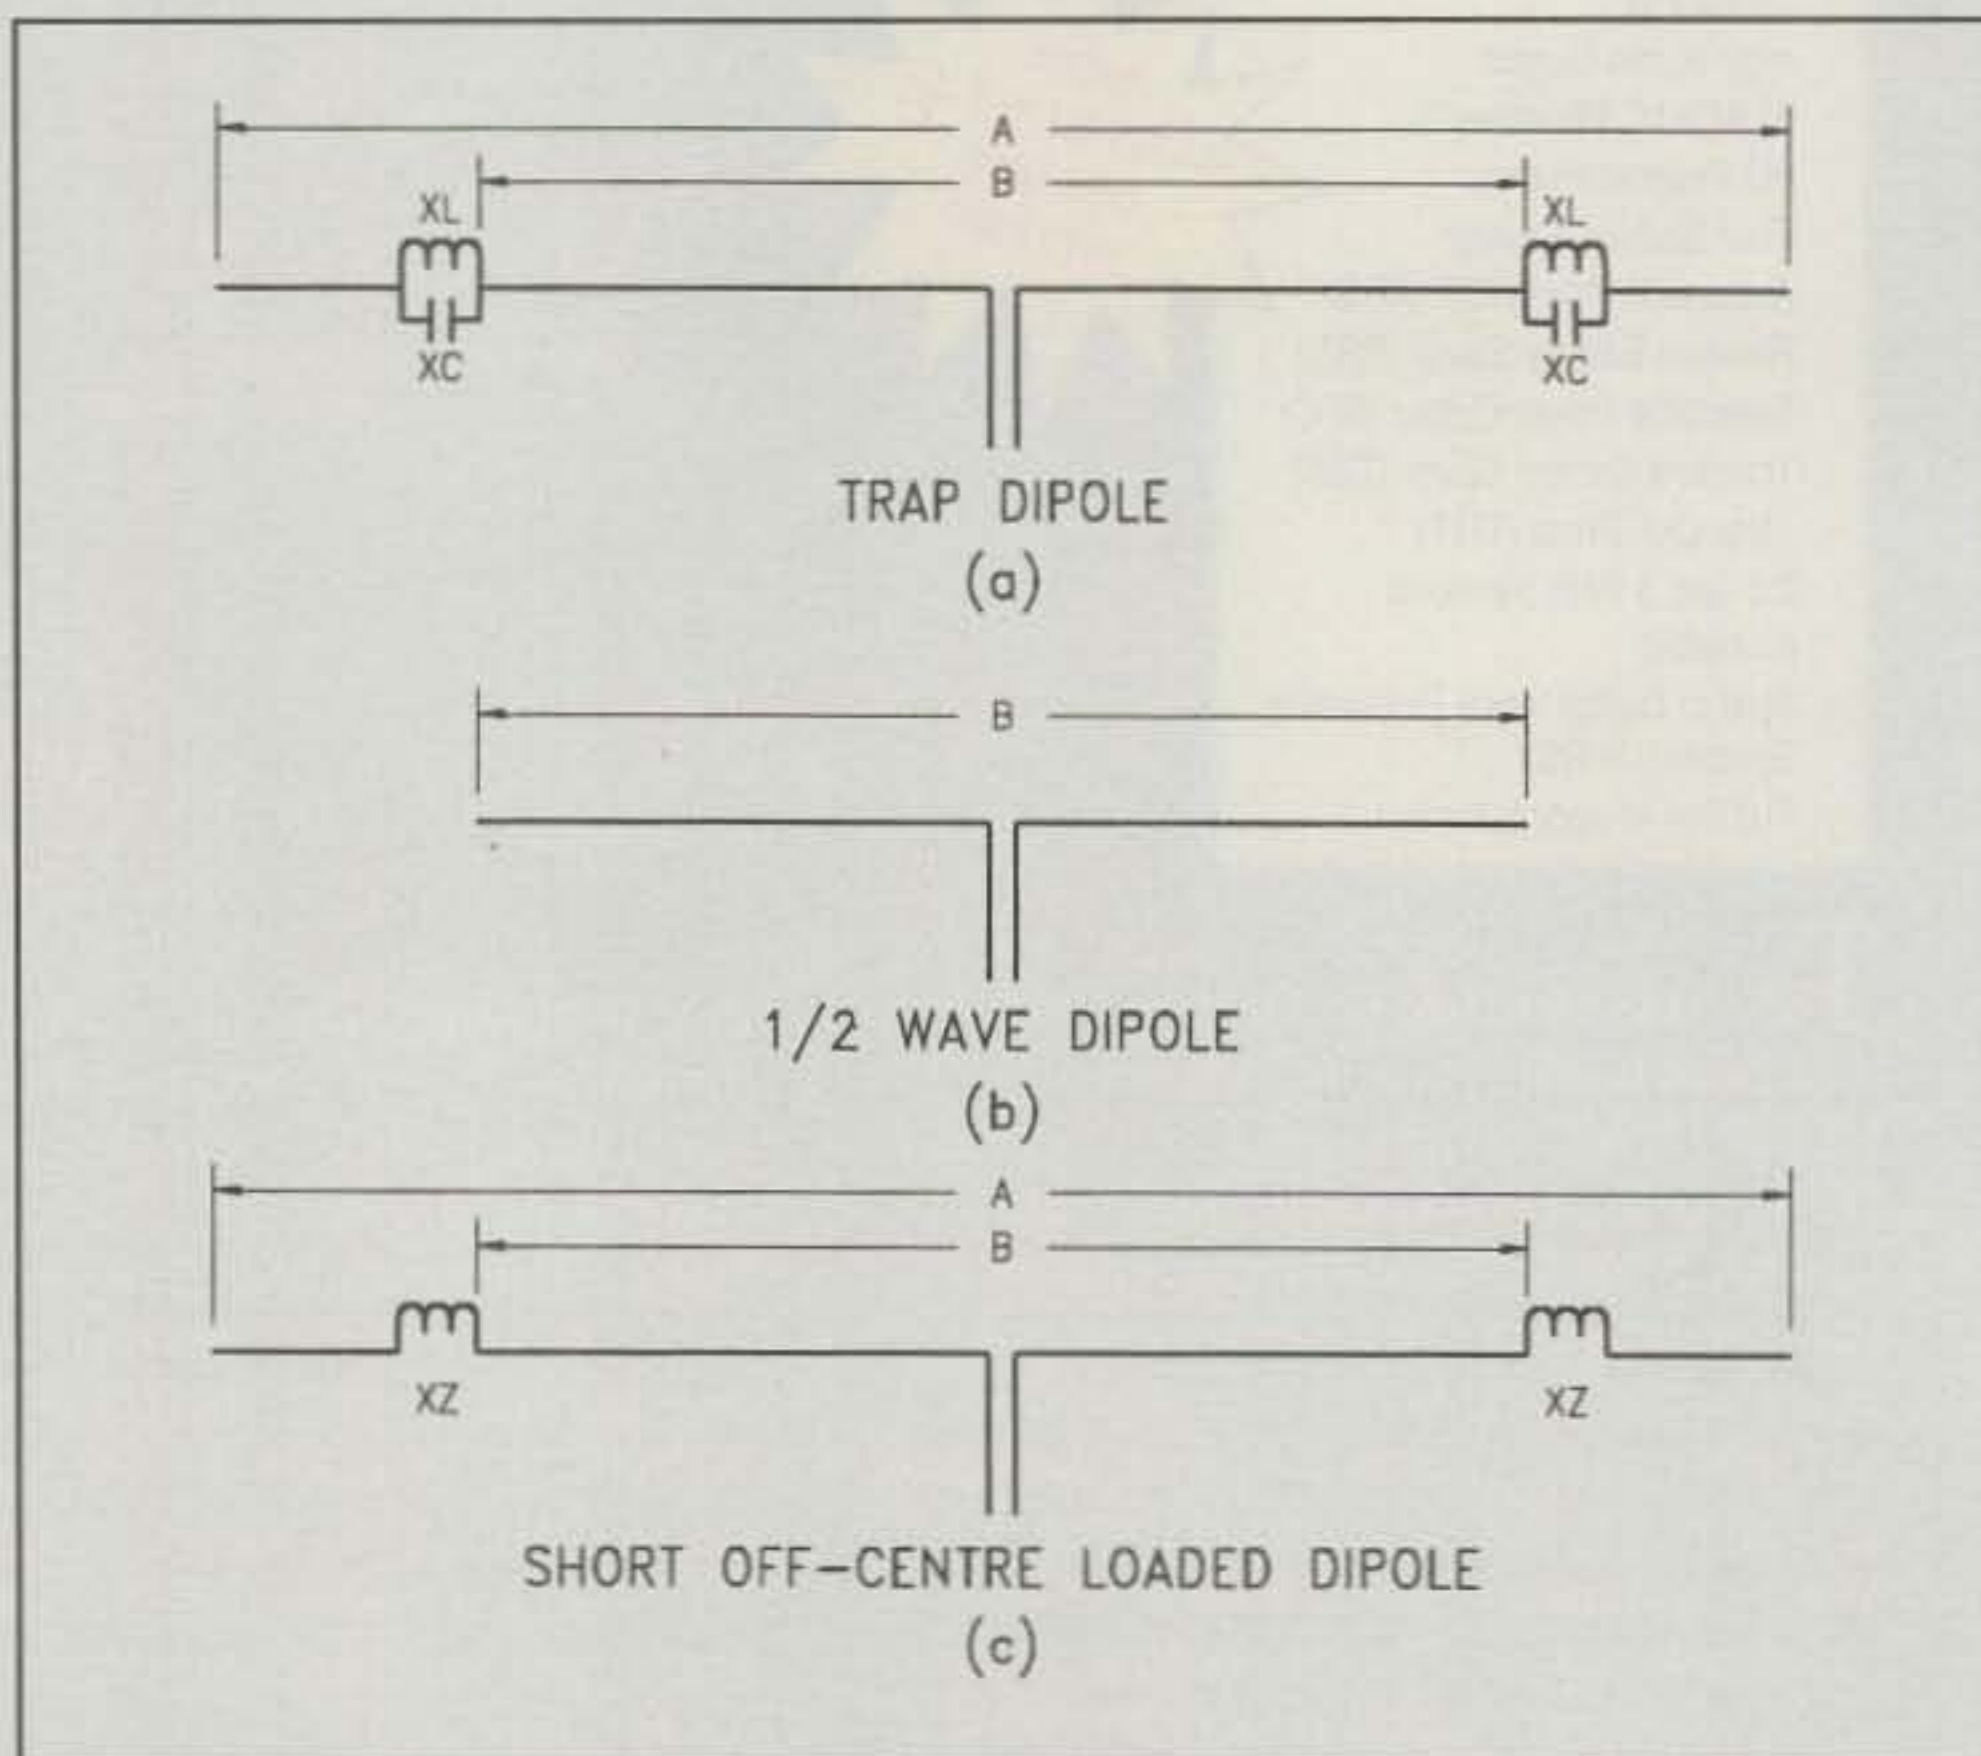

Fig. 1— The evolution of a trap dipole.
A typical trap dipole is shown in fig. 1(A). It is a combination of fig. 1(B), a simple 1/2-wave dipole, and fig. 1(C), a short off-center loaded dipole which has no capacitors, only inductors. If you are not familiar with short off-center loaded dipoles, just picture two mobile whips (the kind with a loading coil somewhere near the middle) assembled base-to-base horizontally, with the
Each trap in fig. 1(a) consists of an inductor and a capacitor in parallel. The reactances (XL and XC, respectively) of each
above the trap's resonant frequency the trap behaves as a capacitor, and below the resonant frequency the trap behaves as an inductor. Therefore, in fig.1(C) the single inductance XZ is actually the trap behaving as an inductor. What it all boils down to is this: When you have a dual-band trap antenna, you are running a 1/2-wave dipole at the higher frequency and an off-center loaded dipole at the lower frequency.
3. Determine length B of the 1/2-wave dipole, fig.1(B), for the higher of the two selected frequencies.
4. Determine values of the trap components. Any values of inductor L and capacitor C will work as long as their reactances are equal at the frequency of the higher of the two bands selected. Equal but relatively low reactances will produce high Q but very narrow bandwidth traps. Equal but relatively high reactances will produce more acceptable bandwidth, but at the expense of reduced Q. Reactances in the range of 300–450 ohms are recommended. Decide on a reactance (375 ohms is a good place to start) and calculate the values of C and L at the resonant frequency of the 1/2-wave dipole, fig.1(B).